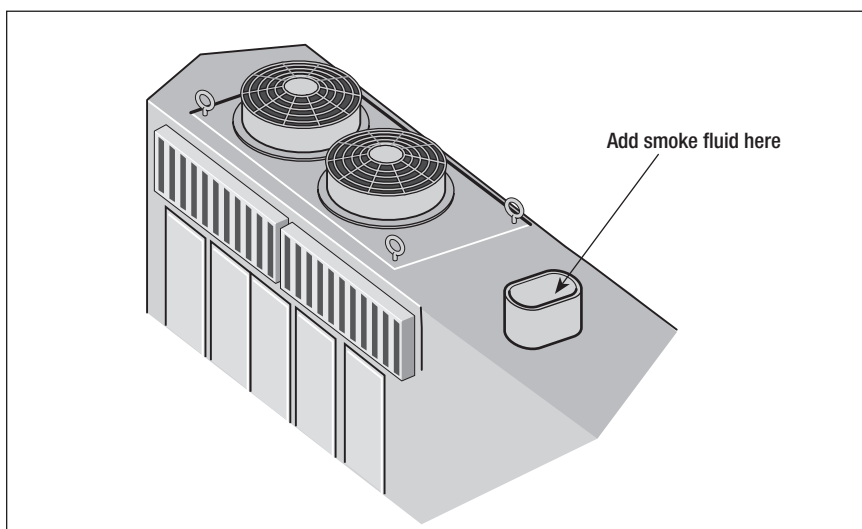

Figure 3. Smoke fluid locations
**Y**our locomotive is equipped with a smoke generator that produces safe, clean, white smoke during operation. Add 10-20 drops (shown in Figure 3) to prime the unit the first time you run the locomotive or after being stored for an extended period of time, and then add 10 to 20 drops to refill when smoke production decreases. When refilling, **DO NOT EXCEED 20 DROPS** as this can cause your smoke units to become oversaturated allowing leakage onto the electronics. Note that operating your locomotive's smoke unit without smoke fluid will cause damage to the heating element.